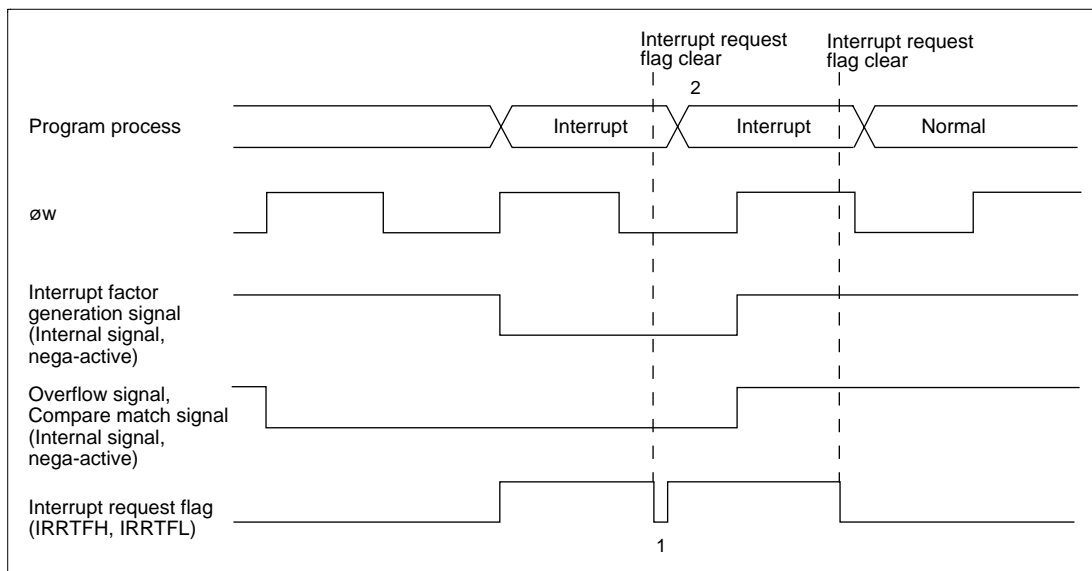

Figure 9.6 Clear Interrupt Request Flag when Interrupt Factor Generation Signal is Valid
When $\phi_w/4$ is selected as the internal clock, “Interrupt factor generation signal” will be operated with ϕ_w and the signal will be outputted with ϕ_w width. And, “Overflow signal” and “Compare match signal” are controlled with 2 cycles of ϕ_w signals. Those signals are outputted with 2 cycles width of ϕ_w (figure 9.6)
In active (high-speed, medium-speed) mode, even if you cleared interrupt request flag during the term of validity of “Interrupt factor generation signal”, same interrupt request flag is set. (figure 9.6 1) And, you cannot be cleared timer overflow flag and compare match flag during the term of validity of “Overflow signal” and “Compare match signal”.
For interrupt request flag is set right after interrupt request is cleared, interrupt process to one time timer FH, timer FL interrupt might be repeated. (figure 9.6 2) Therefore, to definitely clear interrupt request flag in active (high-speed, medium-speed) mode, clear should be processed after the time that calculated with below (1) formula. And, to definitely clear timer overflow flag and compare match flag, clear should be processed after read timer control status register F (TCSRFB) after the time that calculated with below (1) formula. For ST of (1) formula, please substitute the longest number of execution states in used instruction. (10 states of RTE instruction when MULXU, DIVXU instruction is not used, 14 states when MULXU, DIVXU instruction is used) In subactive mode, there are not limitation for interrupt request flag, timer overflow flag, and compare match flag clear.